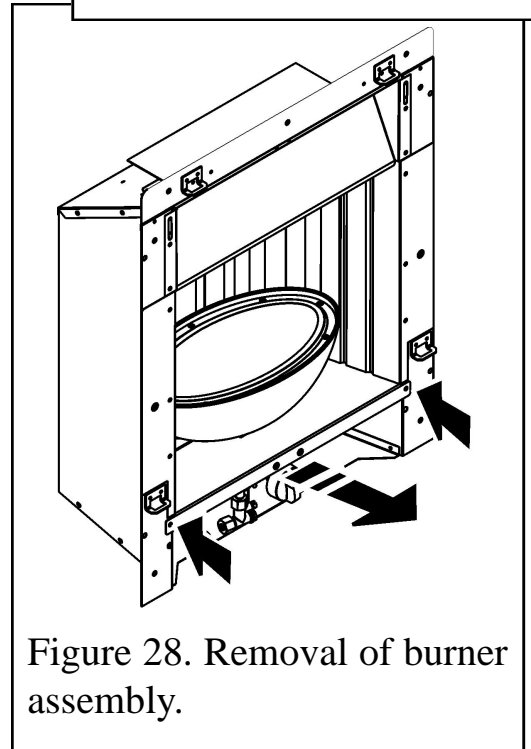

Figure 28. Removal of burner assembly.
4. Remove the two screws to the side of the burner assembly (See figure 28)